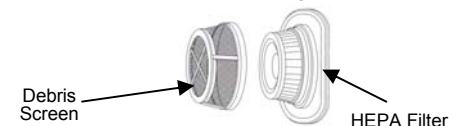

Fig. 5
4. Separate the debris screen from the HEPA filter cartridge by grasping the debris screen with one hand and the filter frame with the other and pull apart. (Fig. 5)